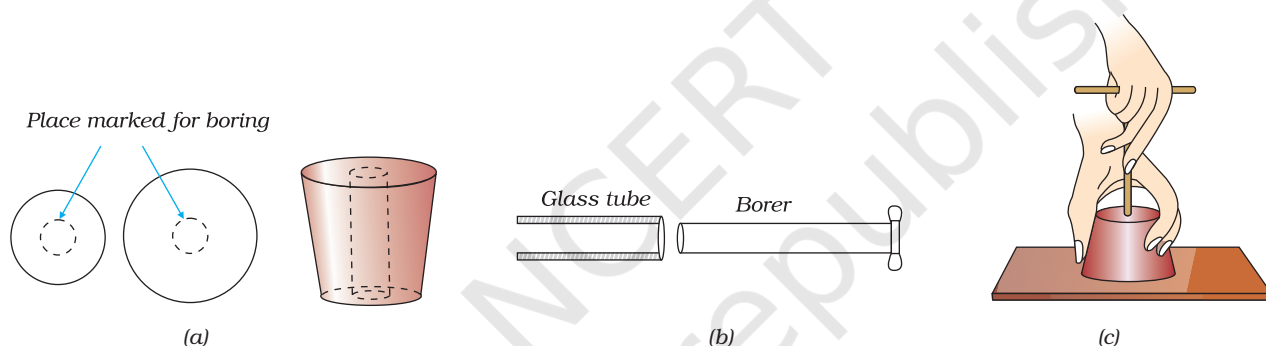

Fig. 2.7 : (a) Marked cork (b) Choosing the borer (c) Boring process
- Mark the rubber cork on both its sides at the place where a hole is to be drilled (Fig. 2.7 a).
- Choose a borer of diameter slightly smaller in size than that diameter of the tube to be inserted in the hole (Fig. 2.7 b).
- Place the rubber cork on the table with its smaller end in the upward direction as shown in Fig. 2.7 c.
- Hold the cork in position with the left hand and put a suitable borer, lubricated by dipping in water or glycerine, at the place where the hole is to be drilled (Fig. 2.7 c). By lubricating the borer with water or glycerine a smooth hole is drilled.